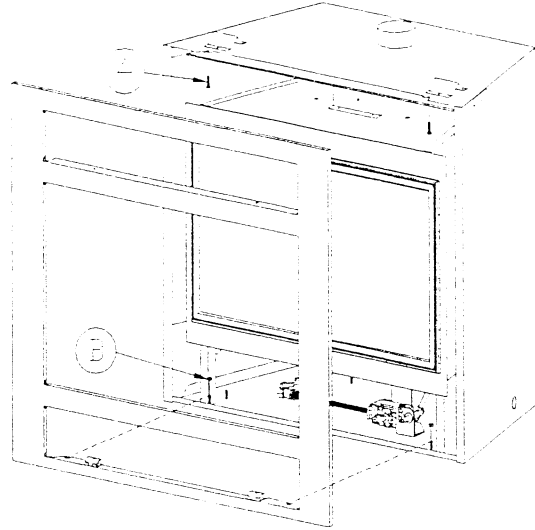

Figure 4
B) REMOVE THE FRONT FACE. See Figure 4.
- 2) Loosen, but do not remove, the two 1/4" bolts (A) with a 7/16" wrench.
- 3) Remove the two 1/4" nuts (B) and slide the face off.